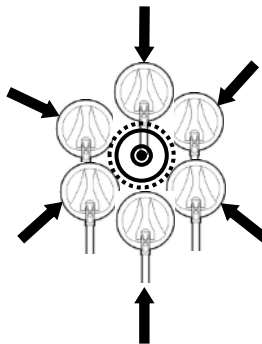

Figure 25: Mapping the Target
- Edge Detection makes use of the coil's consistent sensitivity around its circumference to detect the area of a target. To conduct edge detection, the coil should approach the target location from a variety of angles as shown in Figure 25.